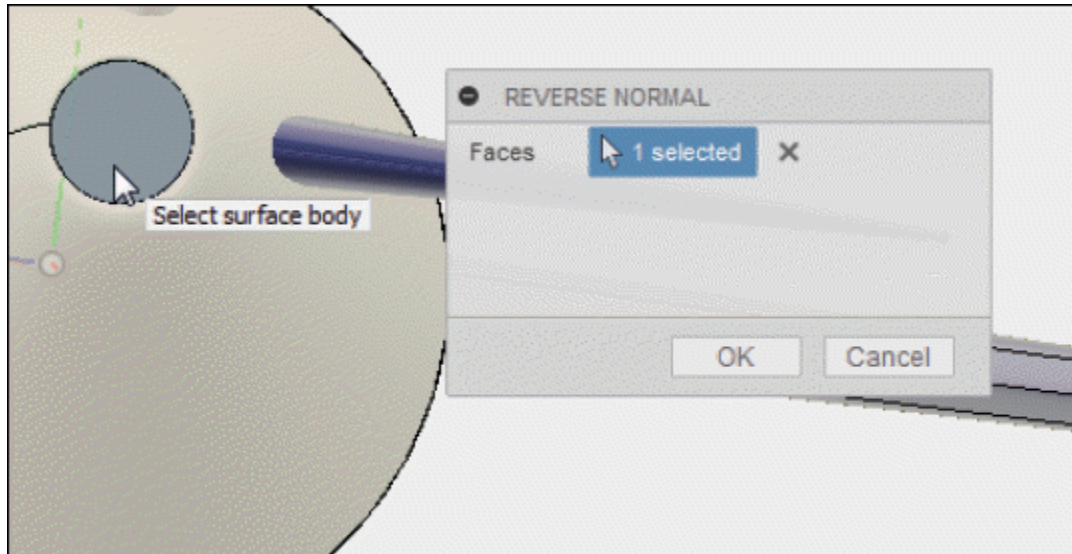

Figure-62. Applying Reverse Normal tool
- The **Select** button of **Faces** section is active by default. Click on the faces with wrong normal; refer to Figure-62.